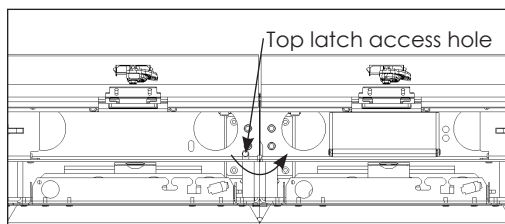
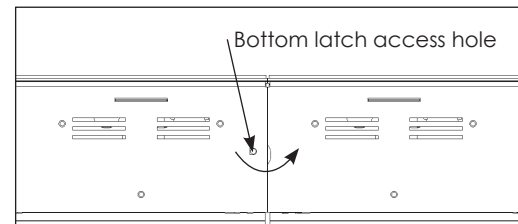

Figure 15: Access Top Latch
Figure 16: Access Bottom Latch
4. Engage the top and bottom latches located in the far right bay of each section. Refer to **Figure 15** and **Figure 16** for latch access locations. Rotate the latches toward the front of the cabinet (clockwise for the top latch and counterclockwise for the bottom latch) as shown in **Figure 15** and **Figure 16**.